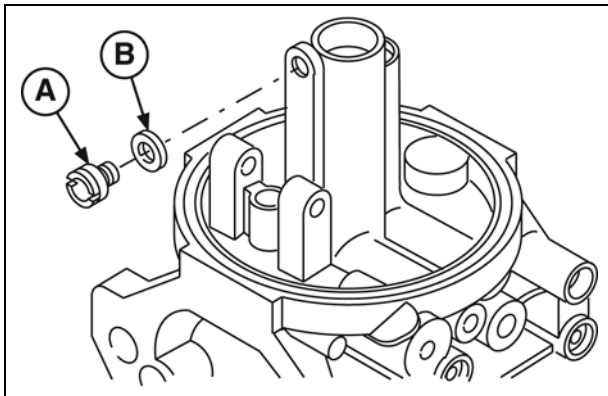

Figure 31
5. Remove fixed main jet (A, Figure 31) and gasket (B). Discard gasket.